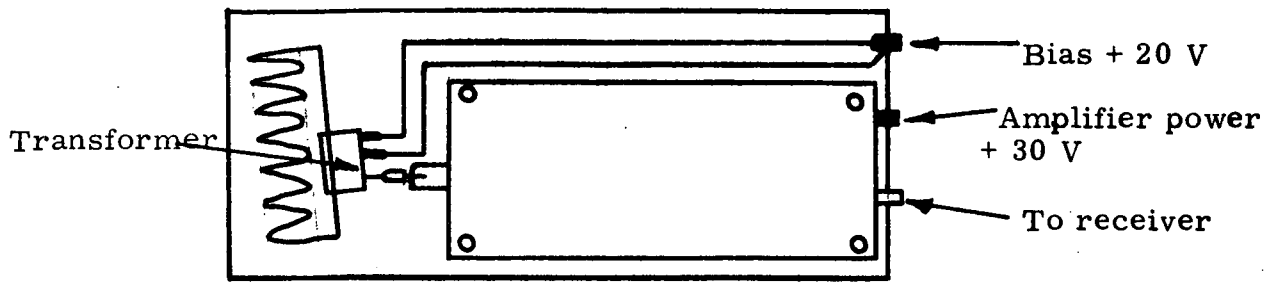

Figure 11. Detector Electronics
3. Connection of detector electronics (see figure 11, 12)